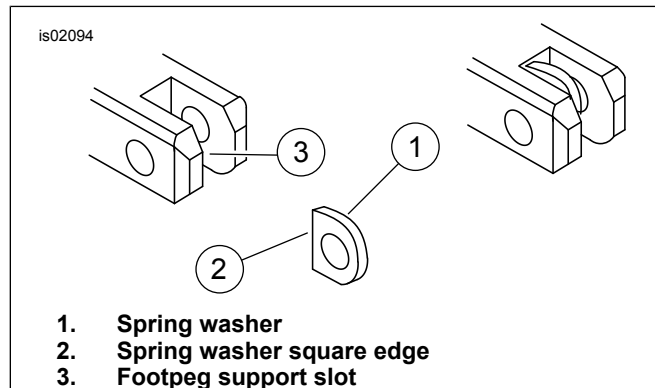

Figure 1. Footpeg Spring Washer Installation
See Figure 1. When performing the next step, verify that the spring washer is positioned inside of the footpeg support with the square edge (2) towards the inside of the support.